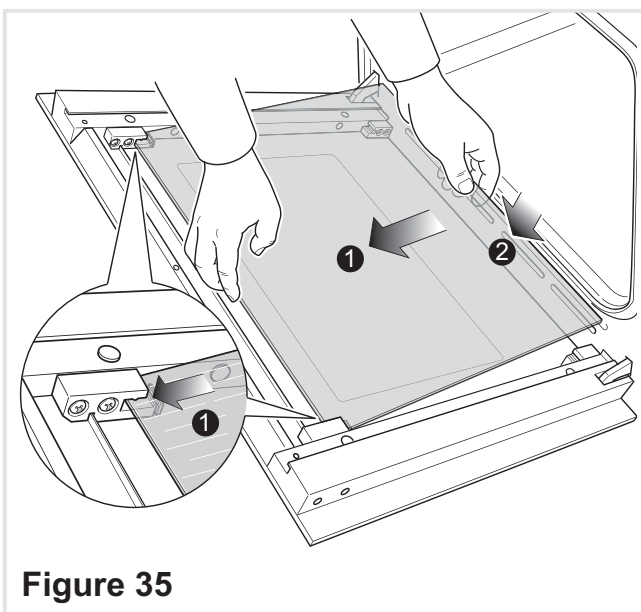
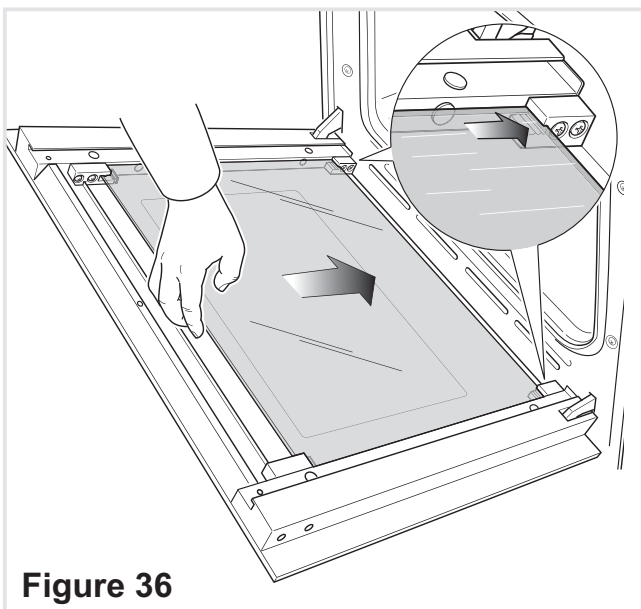

Figure 35
Figure 36
- Gently insert the top edge of the pane into the top clamps (arrow 1 in fig. 35), then lower the pane and insert the bottom edge into the bottom clamps (arrow 2 in fig. 35); and then slide the pane into position (fig. 36).